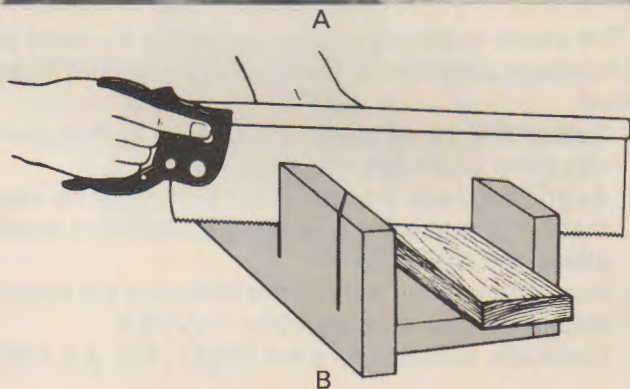

Fig. 22-13. A—Miter box with blade guides and angle lock.
7. Use a guide if possible to maintain alignment. A miter box or jig could be helpful, Fig. 22-13.